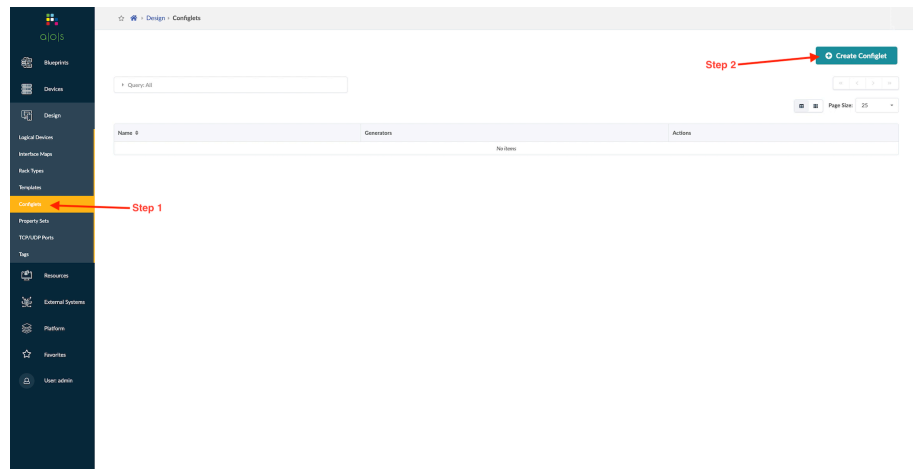

Figure 7.1 *Creating a New Configlet*
Step 1: Go to Design > Configlet. See Figure 7.1.